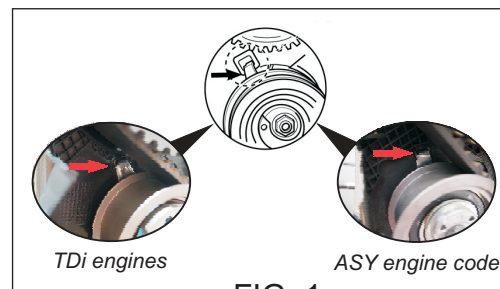

FIG. 1
- ① Fit Airtex water pump, to the tightening torque (15 Nm).
- ② Fit the tensioner correctly, as show the image [FIG. 1].